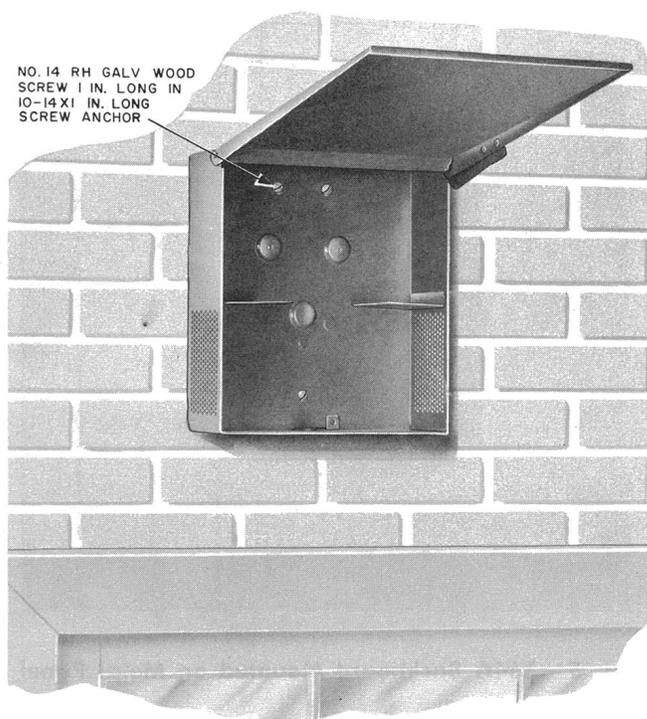

Fig. 6 - 169A Backboard Mounted on Brick Building
2.15 The 169A backboard is used where protection from weather and mechanical injury is desired. This backboard is provided with a hinged cover and machine screws for mounting subscriber set. When mounted outdoors, this backboard should be secured with rustproof fasteners. Where practicable, use three fasteners to attach the 169A backboard. Fasteners should be brought up snug without forcing to avoid distorting backboard and throwing tapped mounting holes out of alignment (see Fig 6).